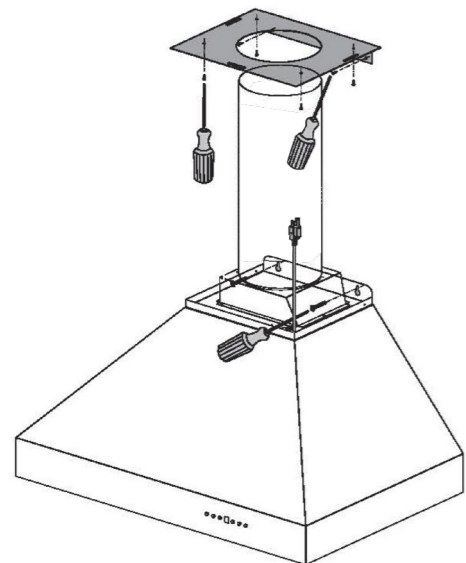

Figure 8
9. Mark the mounting points and install the two mounting screws provided leaving the heads out 1/4" to mount the hood. *Figure 8*